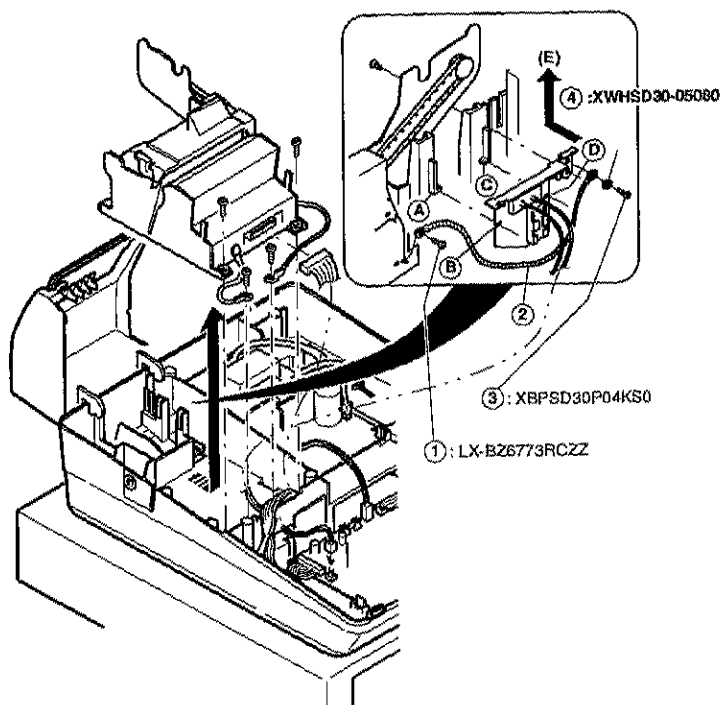

Fig. 2
Fix the other end of the grounding wire (2) to the screw (1) hole in the right rear side of the R/J printer. (Fig. 2)